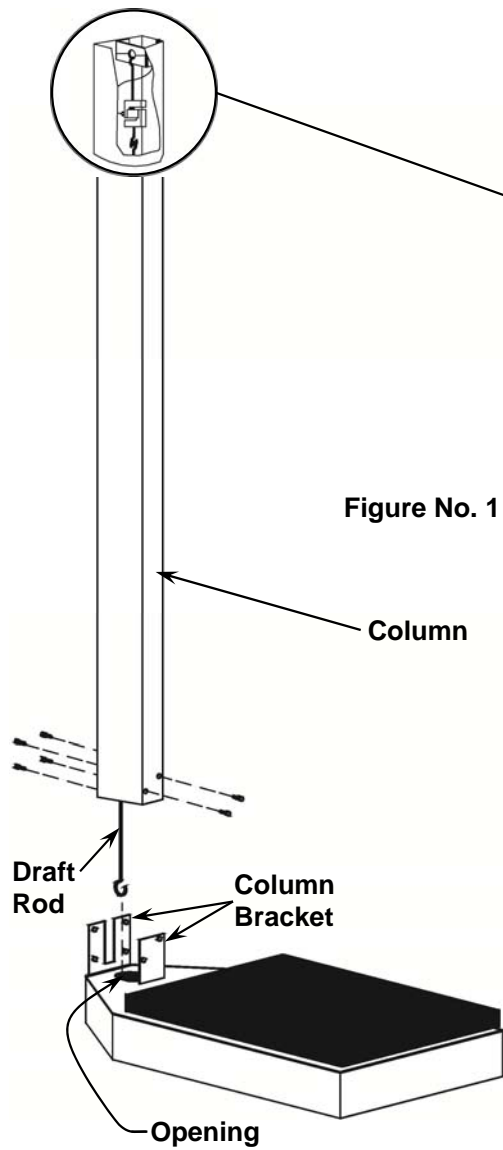

Figure No. 1
Refer to Figures No. 1, 2, 3, and 4, then follow the instructions for scale assembly.
2. Slip column over column bracket on platform base. Screw column to column brackets (two 1/4 truss head screws in front of column and four in the back). See Figure No. 1.
4. Lower load cell and draft rod assembly into column. Draft Rod must pass through opening in column bracket. Referring to Figure No 1, make sure open end of lower draft rod hook is facing forward toward platform.